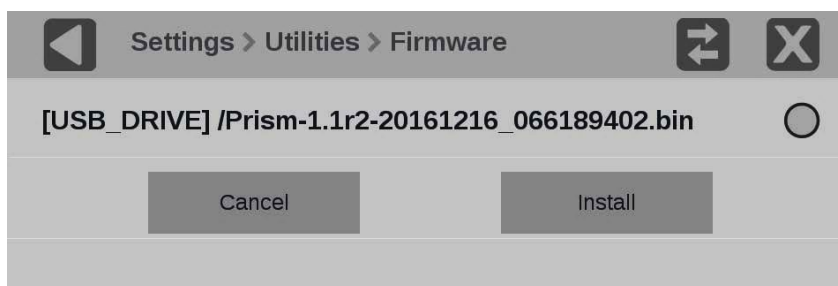

Figure 87: Select the firmware upgrade file
6. Select the file in the list and then select **Install** to start the upgrade. (See Figure 87.)